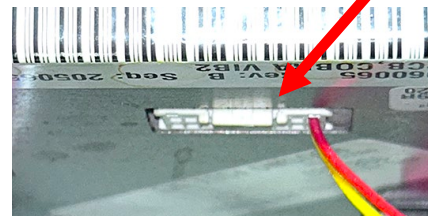

Figure 3
6. Carefully disconnect the J1 20-pin harness from the VIB board (see Figure 3).